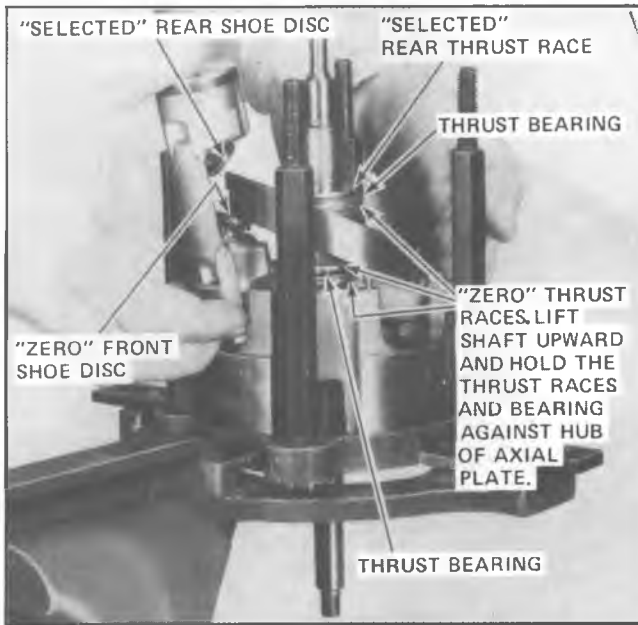

Fig. 51--Installing 1st A-6 Piston Assembly Into Front Cylinder Half
3. Rotate the axial plate so that the high point is above cylinder bore No. 1. Carefully assemble Piston No. 1, complete with ball and ZERO shoe disc on the **front** AND ball and NUMBERED shoe disc on the **rear**, over the axial plate. Hold front thrust bearing pack tightly against axial plate hub while lifting hub. Insert the Piston Assembly into the front cylinder half (Fig. 51).